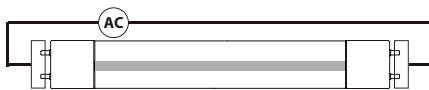

Fig:1 - Double-Ended connection
- 6) RAB LED T8 lamps are designed for double-ended connections(Fig. 1).